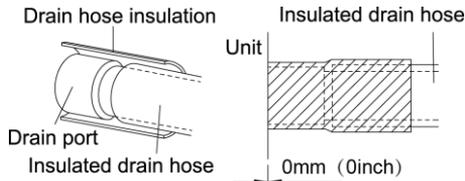

Fig. 4.26
- (9) Be sure to insulate where the drain port and the drain hose is connected (Fig. 4.26).